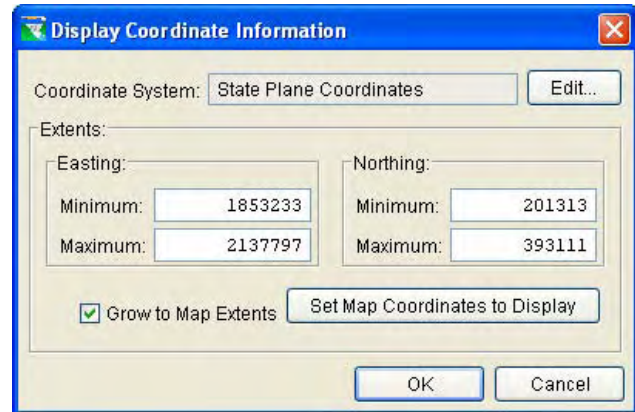

Figure 3.12 Geographic Region Dialog Box
2. From the **Maps** menu, select **Map Display Coordinates** to open the **Geographic Region** dialog box (Figure 3.12).